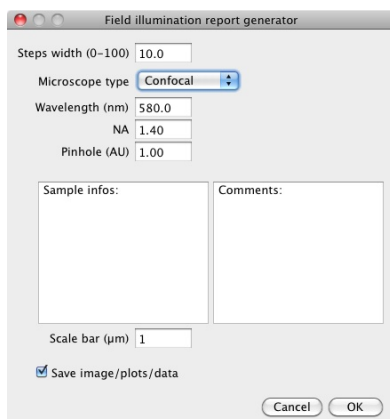

Figure 3.2: Generate field illumination report: the interface.
5. The plugin's interface should appear (see fig. 3.2);